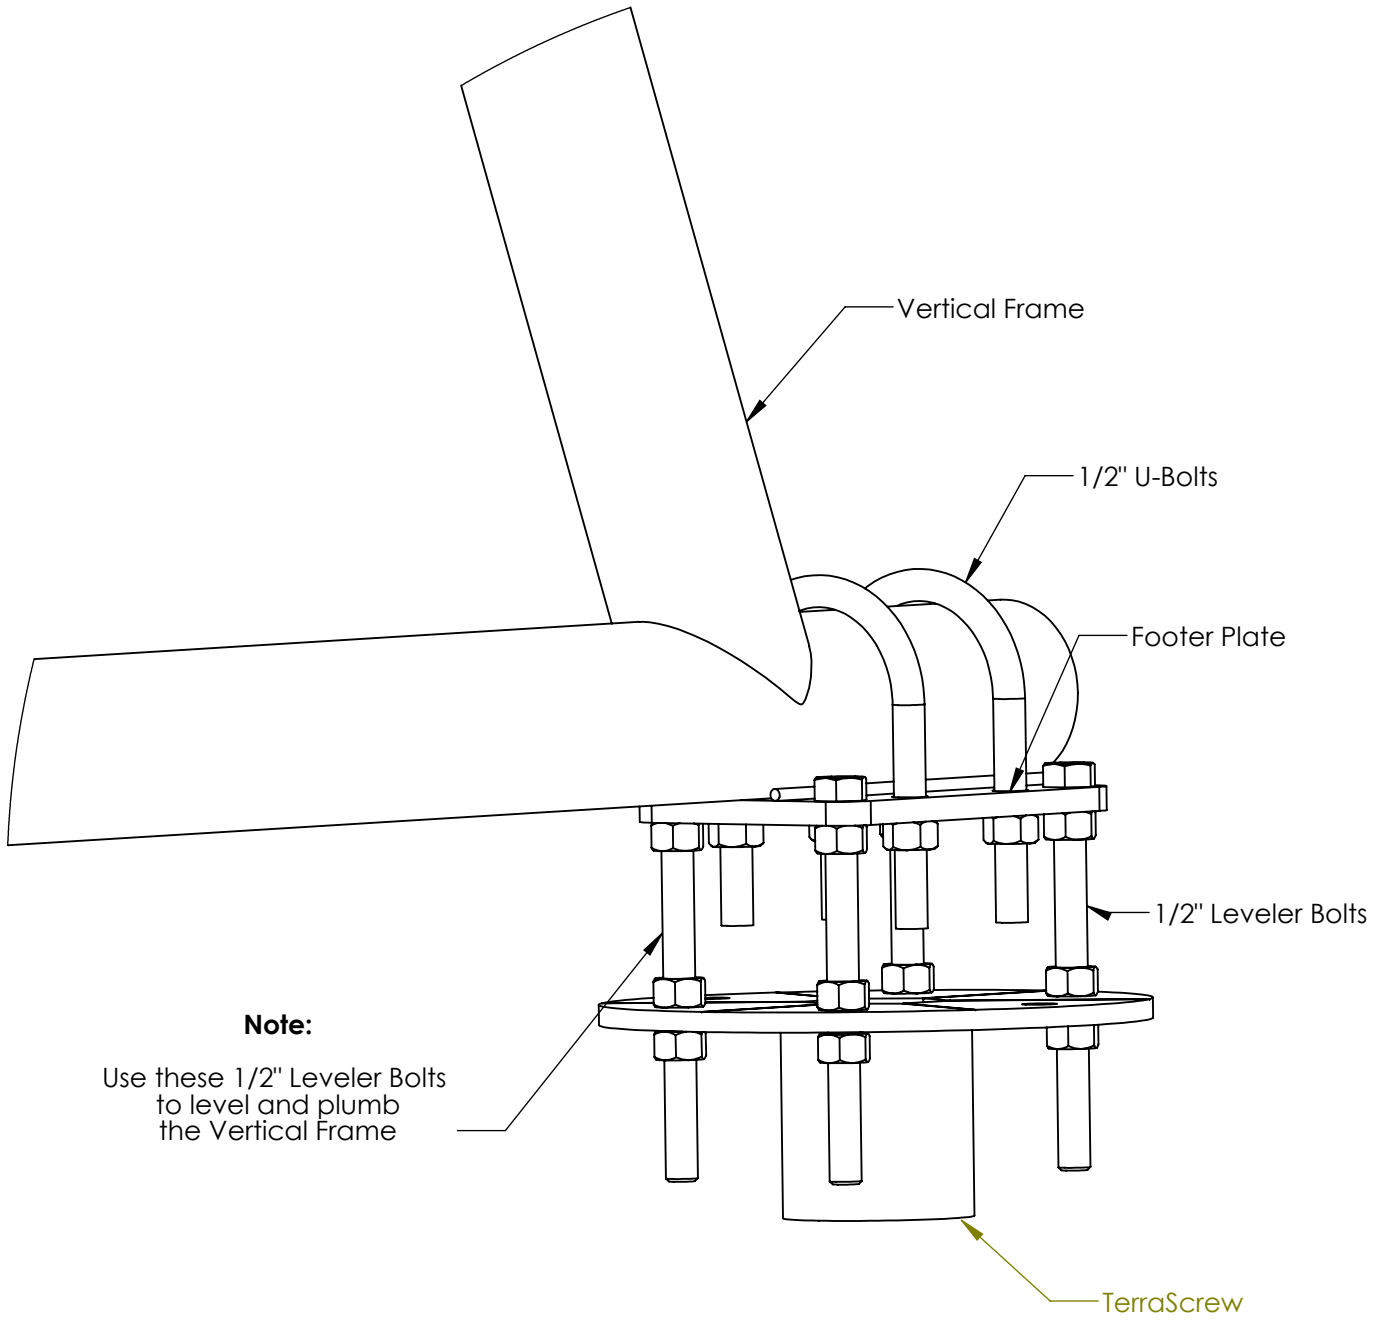

Figure 5
4. Install 4 Panel Mounting Rails as indicated in (Fig.5)